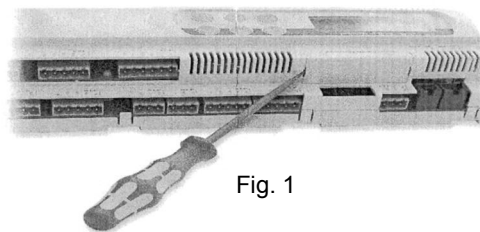

Fig. 1
- Switch off the pCO² and remove the "expansion memory" cover with a screwdriver (see "Copy from pCO² to the Software Key" on page 3–21/Fig. 1)
- Switch off the pCO² and remove the "expansion memory" cover with a screwdriver (see Fig. 1)